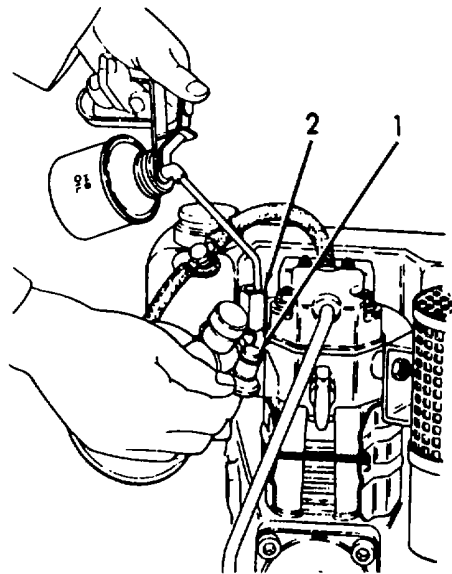

Figure 2-5. Filling Cold Start Assist Cup.
- c. Cold weather starting can be improved by the addition of engine oil to the cold start assist. (Refer to figure 2-5).
(1) With engine stopped, remove closing plug (1) from cold start assist (2).